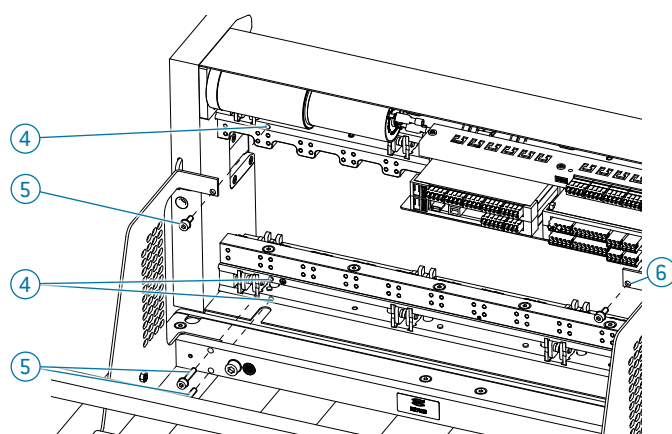

Fig. 95
- ▶ Pull out the slide mount (1).
- ▶ Guide the top left bracket (6) of the slide mount behind the controller (Fig. 95).
- ▶ Position the receiver (2) so its fixing points (4) align with the fixing points on the slide mount (3). Screw the slide mount onto the receiver fixing points.